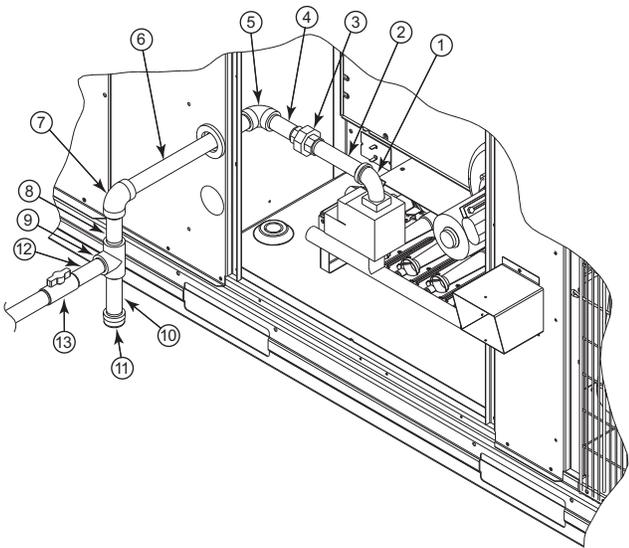

Fig. 18 - Gas Supply Line Piping
For typical $\frac{3}{4}$ inch NPT field supplied fittings required for NON Thru-Base gas supply starting from the unit gas valve, omit items 14 and 15 from Table 4 and pipe gas supply into TEE. See Fig. 18.
Some municipal codes require that the manual shutoff valve be located upstream of the sediment trap. See Fig. 18 for typical piping arrangements for gas piping that has been routed through the sidewall of the base pan.